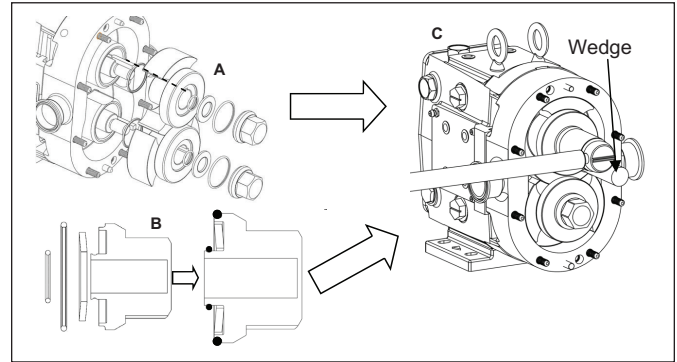

Figure 58. Installing and Securing the Rotor
2. Insert rotor key in the keyway on the shaft. Install a new rotor hub o-ring on the rotor hub and align the rotor keyway to the key in the shaft (*Figure 58, A*). Slide the rotor on until it seats against the shaft. Install the Bellville washer in the rotor nut and hold it in place using the small retaining o-ring (*Figure 58, B*). Place one nut on at a time, tightening them down using the appropriate wrench and a non-metallic wedge to hold the rotor in place (*Figure 58, C*). See *Table 7* for required torque values. Repeat with the second rotor.